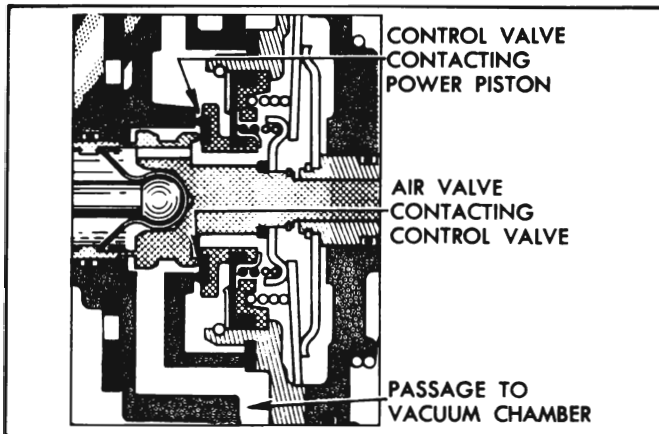

Figure 9-16—Valves at Poised Stage
(4) *Poised Stage.* When the desired brake apply pressure is reached and brake pedal is held poised, the power piston continues rearward momentarily until it contacts the floating control valve. See figure 9-16. At this point, the air valve is also in contact with the control valve so that the passages to the *vacuum* chamber are sealed off from atmospheric pressure as well as vacuum; therefore the power piston remains stationary or poised, ready to move in either direction as dictated by brake pedal movement.